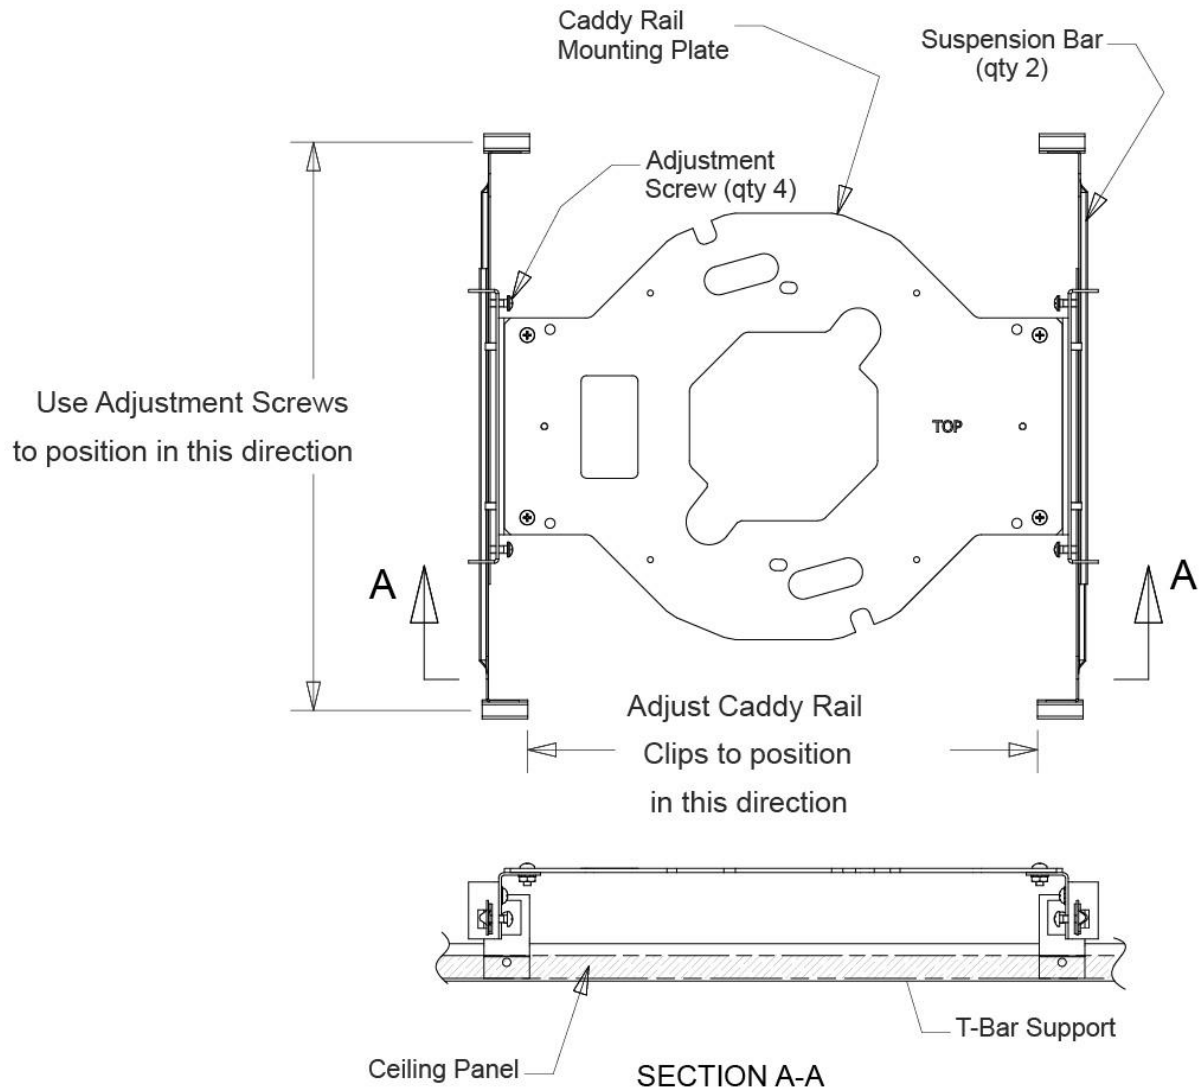

Figure 2
5. Remove the mounting bracket assembly and rail kit (refer to Figure 2) from their containers.
8. Working from the adjacent tile area, position this rail/bracket assembly squarely over the hole and fasten the caddy rail clips to the existing frame. Refer to Figure 2.